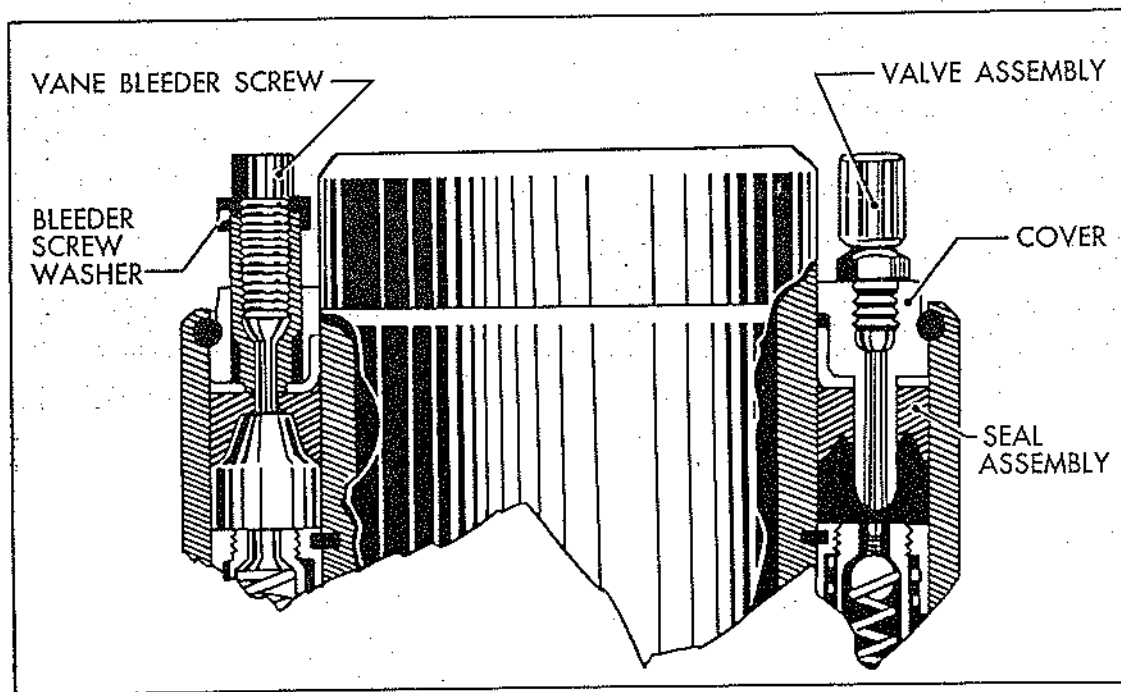

Figure 85.—Filling the adapter with oil
a Zerk pressure assembly gun can be connected at the fitting provided on the valve (see Fig. 85) to add enough pressure to move the seal to its proper location. Do not allow this ring to extend beyond the outer sleeve
(1) Remove the bleeder screw and bleeder screw washer from the cover. See Fig. 85.
(12) As shown in Fig. 85, assemble the bleeder screw washer and the vane bleeder screw to the stem projecting from the seal assembly through the cover. Assemble the valve assembly opposite the bleeder.
(13) Fill the unit with oil AN-VV-O-366A as follows (see Fig. 85):